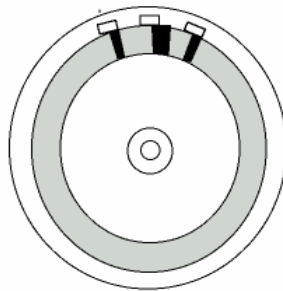

Fig 1
- 9.1.2.1 Connect a voltmeter to TP1 and TP gnd on the sensorboard. Turn the sampler wheel by hand in the position with the wide black position, Fig1 (pos. 1) stripe in front of the position sensor. Turn the wheel slowly to the max. reading voltage at the voltmeter.